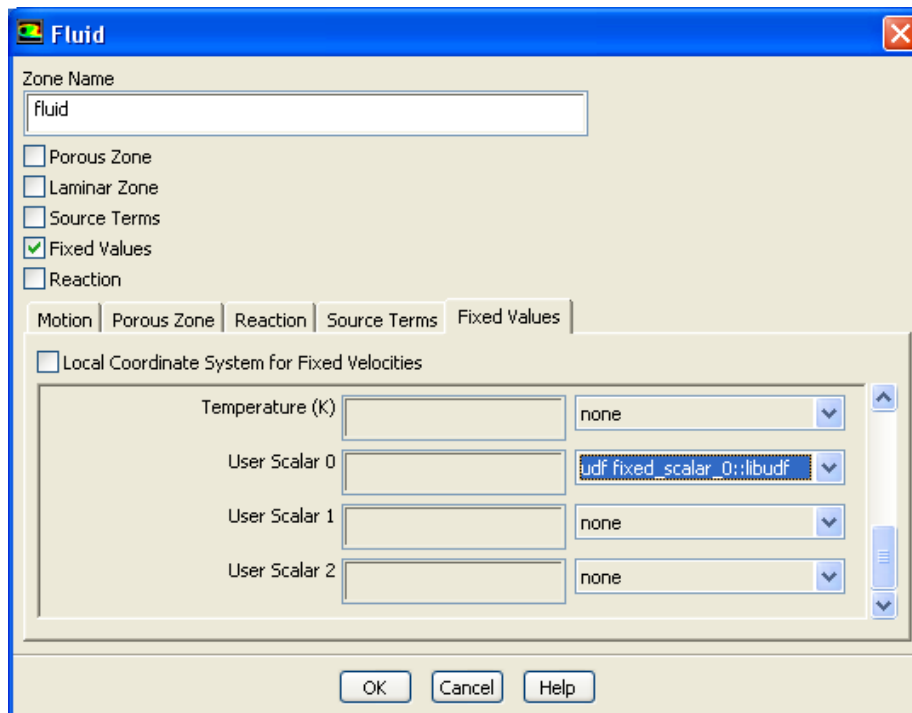

Figure 6.2.18: The Fluid Dialog Box with Fixed Value Inputs for User-Defined Scalars
- If you are using your UDF to specify a fixed value in a cell zone, you will need to enable the **Fixed Values** option in the **Fluid** or **Solid** dialog box. Then click the **Fixed Values** tab (Figure 6.2.18) and select the name of the UDF (e.g., `fixed_scalar_0`) in the appropriate drop-down list for the value you wish to set.